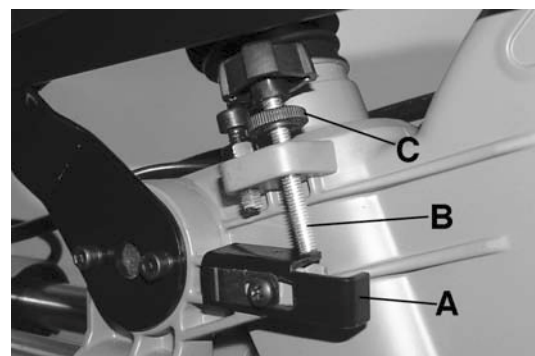

Figure 9
In its normal position, the depth of cut stop Fig.8 permits the saw blade to cut right through a workpiece. When the saw arm is lifted, the depth of cut stop (A) Fig.9 can be slid over towards the right so that the depth adjustment screw (B) contacts the stop as the saw arm is lowered. This restricts the cut to a "adjusted depth" in the workpiece. The depth of cut can be adjusted with the adjustment screw and locked in position with the lock nut (C) Fig.9.